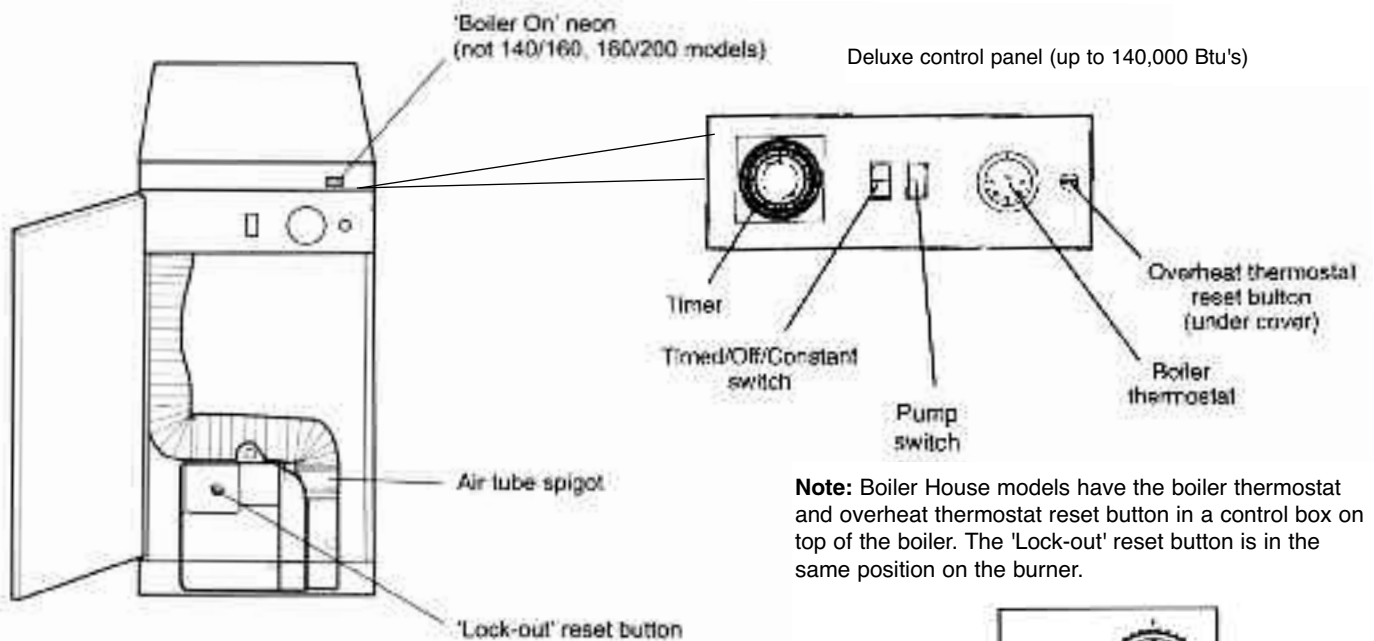

Fig 21
- 3 **Balanced flue** - Remove the air intake cover from the burner and fit the air tube spigot using the gasket and screws supplied. See Fig. 21. Fit the air tube over the air tube spigot and secure it in position using the clamp supplied.
Refer to Figs. 21 or 21a for boiler controls